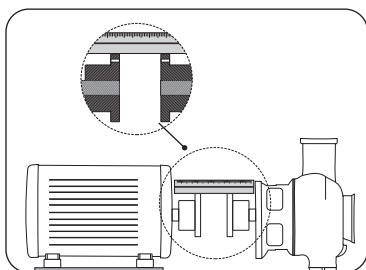

FIGURE 8.1 - GAP CHECKING
4. To check the radial alignment use a metal ruler, see Figure 8.1.